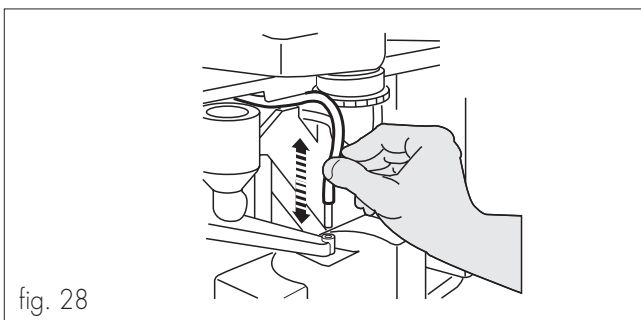

fig. 28
- Remove the drip tray and extract the hot water dispensing tube nozzle from its seat in the drink dispenser (fig. 28).
- Reinsert the hot water tube nozzle in its seat on the drink dispenser (fig. 28).